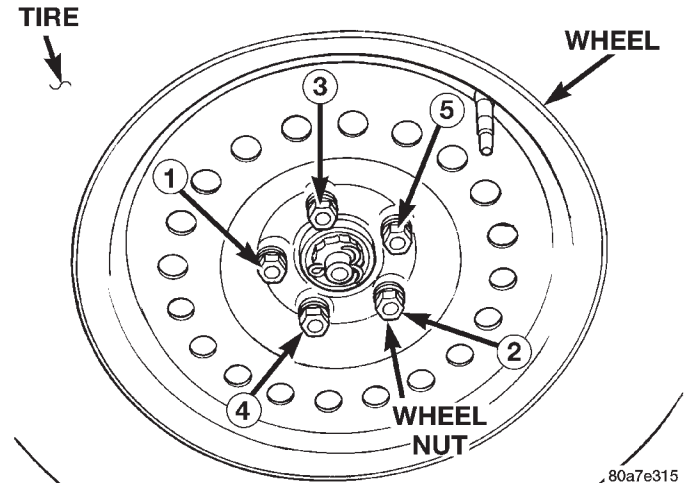

Fig. 15 Wheel Nut Tightening Sequence
(1) To install the wheel, first position it properly on the studs and hub mounting surface using the hub pilot as a guide. Install and **lightly tighten** the wheel nuts in the proper sequence (Fig. 15).
(2) Progressively tighten the 5 wheel nuts in the proper sequence (Fig. 15) until tightened to half of the specified torque. Then tighten the wheel nuts in the proper sequence to a torque of 135 N·m (100 ft. lbs.).